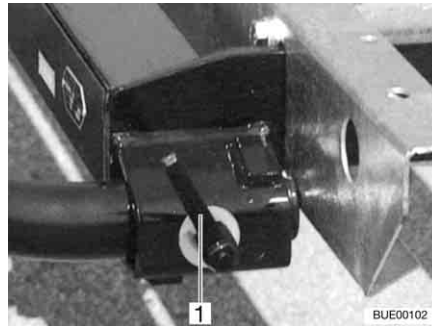

Fig. 4 Quick closure
- Insert the supports on the left and on the right into the holders on the frame and secure them with a quick closure (Fig. 4,1).
- Open the quick closure (Fig. 4,1) and pull the support from the holders on the frame.